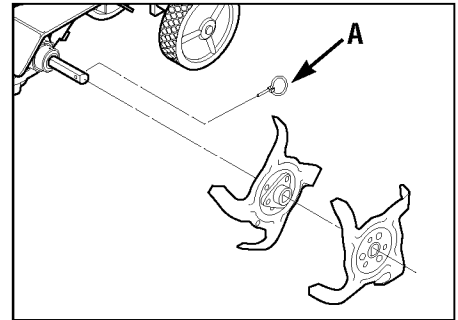

Figure 16: Remove ring lock pin (A) to take off tines.
IMPORTANT: The ring lock pin (A, Figure 16) is under spring tension – wear gloves to protect your fingers when removing or replacing the ring lock pin.
2. Flip open the ring (A, Figure 16) on the left side ring lock pin and remove the ring lock pin.
2. Remove the ring lock pin (A, Figure 16) from both sides of the unit. Remove both outer tine sections. Mark each section as a left or right side tine and whether it is an inner or outer section.
2. Remove the ring lock pin (A, Figure 16) from both sides of the unit. Remove the old tine sections and replace them with new tine sections. Refer to Figure 16 and the tine pattern shown in the *Parts List* for tine positioning details. Insert the ring lock pins through the rounded side of the tine shafts and snap the ring over the shaft (see *DETAIL - Ring Lock Pin*, Figure 4, in Section 2).